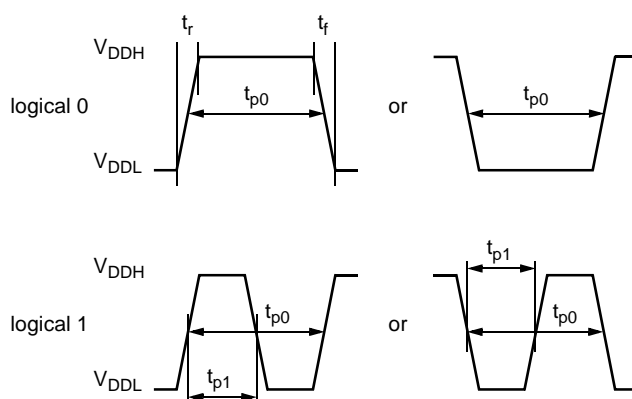

Fig. 5–1: Definition of logical 0 and 1 bit
- Write a register (see Fig. 5–2)
- Read a register (see Fig. 5–3)
- Programming the EEPROM cells (see Fig. 5–4)